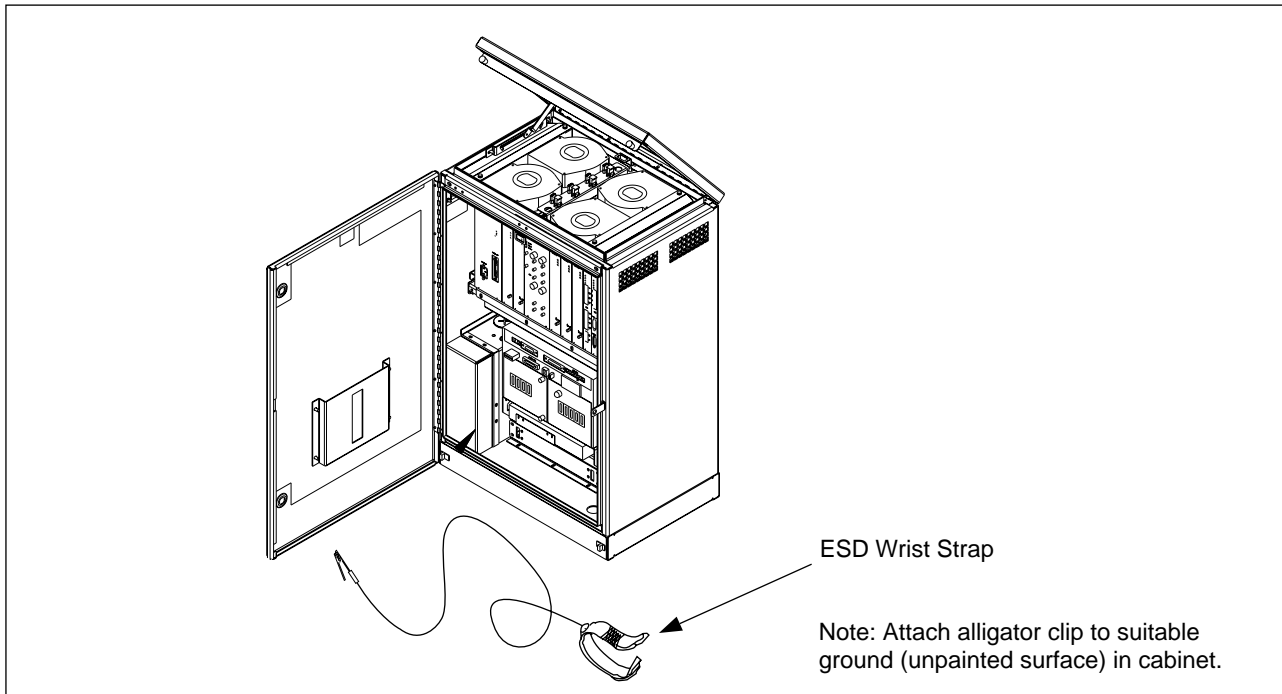

Figure 5-2. Opening the RBS Cabinet and Attaching the ESD Strap
5. Attach the ESD strap and connect the alligator clip to a suitable ground on the cabinet chassis. Do not attach to a painted or coated surface. See Figure 5-2 on page 5-8.